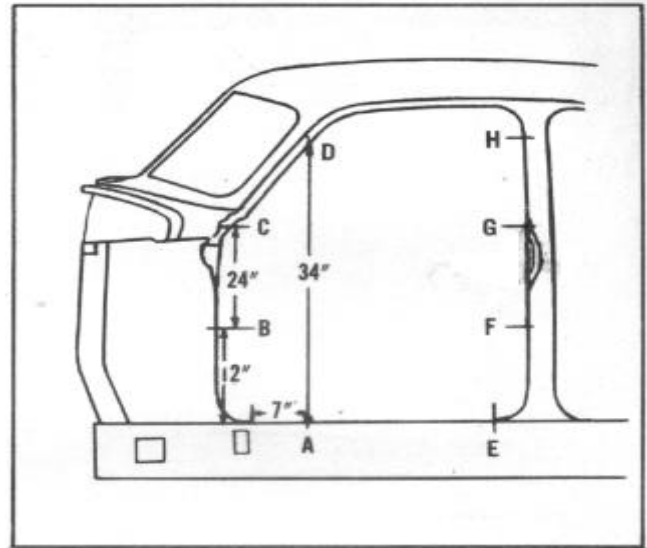

FIGURE 91
Check the front door openings first. Measure back 7" from the front hinge pillar (A), Figure 91, on the underbody panel and mark this point as indicated.
Place one end of the rule on this 7" mark and measure upward to 12", 24" and 34" on the front hinge pillar. Use a chalk for marking and mark accurately. Mark these points B, C, and D. Measure 12", 24", and 34" upwards on the lock pillar starting from the bottom of the pillar where it is welded to the underbody sill (E), Figure 91.